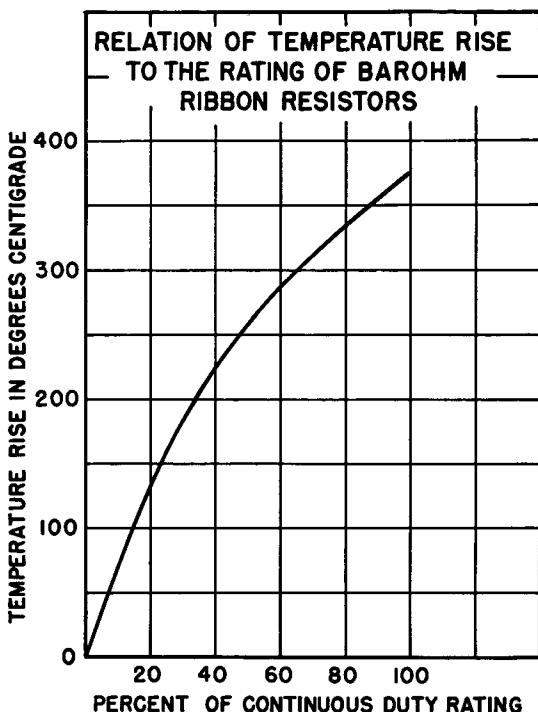

Figure 3-36. Percent of Continuous-duty Rating versus Temperature Rise of Barohm Resistors
5. *Application Data*—The curve in Figure 3-36 illustrates the effect of load versus temperature rise on Bar-
To illustrate the use of the curve shown in Figure 3-36, assume a single Barohm resistor, rated at 100 amperes and having a resistance of 0.31 ohms, carries a load of 50 amperes. The temperature rise of the resistor can be estimated as follows:
Referring to the curve in Figure 3-36, the 25 percent of continuous duty rating will give a temperature rise of approximately 150°C.